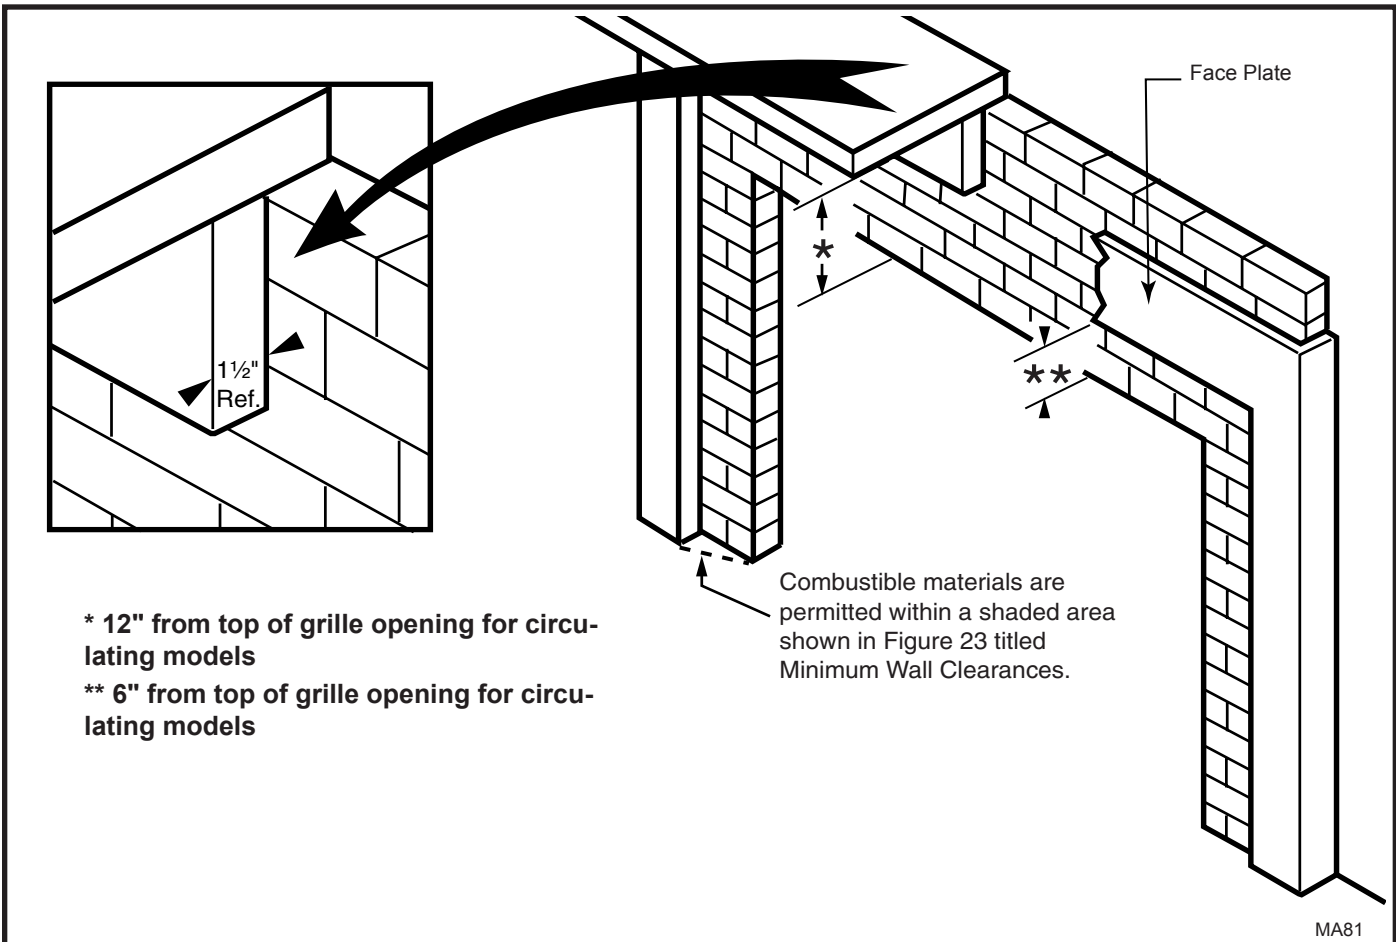

Fig. 23 Combustible mantel clearances.
Finish the wall with material of your choice. **Do not install a combustible mantel shelf less than 12" (305 mm) from top of grille opening. Do not install a mantel face plate less than 6" (159 mm) from top of grille opening.** (Fig. 23) If a combustible material is
**NOTE:** No side wall protection is required for fireplaces installed at 45° to two (2) side walls (corner installation). Often a decorative surround or vertical portion of the mantel is desired. If this is constructed of any combustible material it must be within the safe zone indicated in Figure 23.